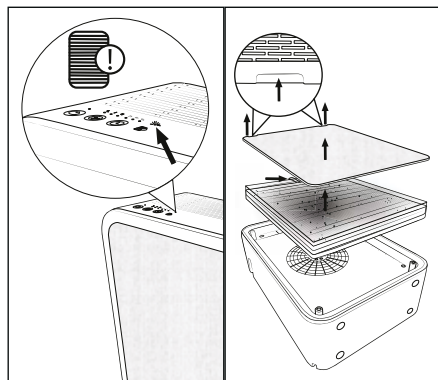

Fig. 6
If the filter change LED **4** flashes (see Fig. 6), the EPA filter **7** can no longer perform at full capacity. Information on ordering replacement filters can be found in the section **11. Ordering replacement parts**.
- ◆ Remove the cover **6** using the recessed grips on the top of the appliance (see Fig. 6).
- ◆ Pull the EPA filter **7** out of the appliance by the tab (see Fig. 6).